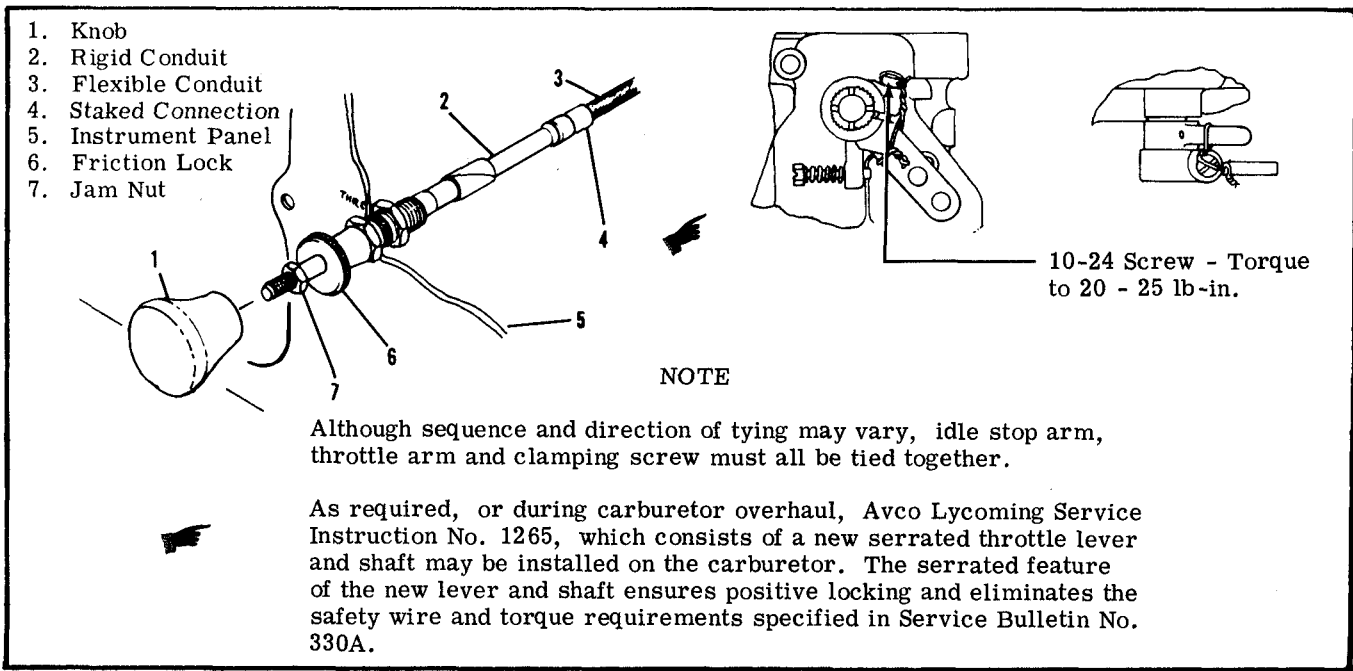

Figure 11-5. Throttle Control
Before rigging throttle control shown in figure 11-5, check that staked connection (4) between rigid conduit (2) and flexible conduit (3) is secure. If any indication of looseness or breakage is apparent, replace the throttle control before continuing with the rigging procedure.
- a. Pull throttle control out (idle position) and remove throttle control knob (1).
- b. Screw jam nut (7) all the way down (clockwise) and install throttle knob. Screw the knob securely against the jam nut. Do not back jam nut out. This will prevent bottoming and possible damage to the staked connection.
- c. Disconnect throttle control at the carburetor throttle arm, push throttle control in until jam nut hits friction lock (6) while the friction lock is loose, then pull control out approximately 1/8 inch for cushion. Note position of large washer at carburetor end of control. Install washer in same position when connecting control to arm.
- d. Tighten friction lock (6), being careful not to change position of the throttle.
- f. Release friction lock and check full travel of arm on carburetor. If further adjustment is required, make all adjustment at the carburetor end of control. DO NOT change jam nut (7) setting.